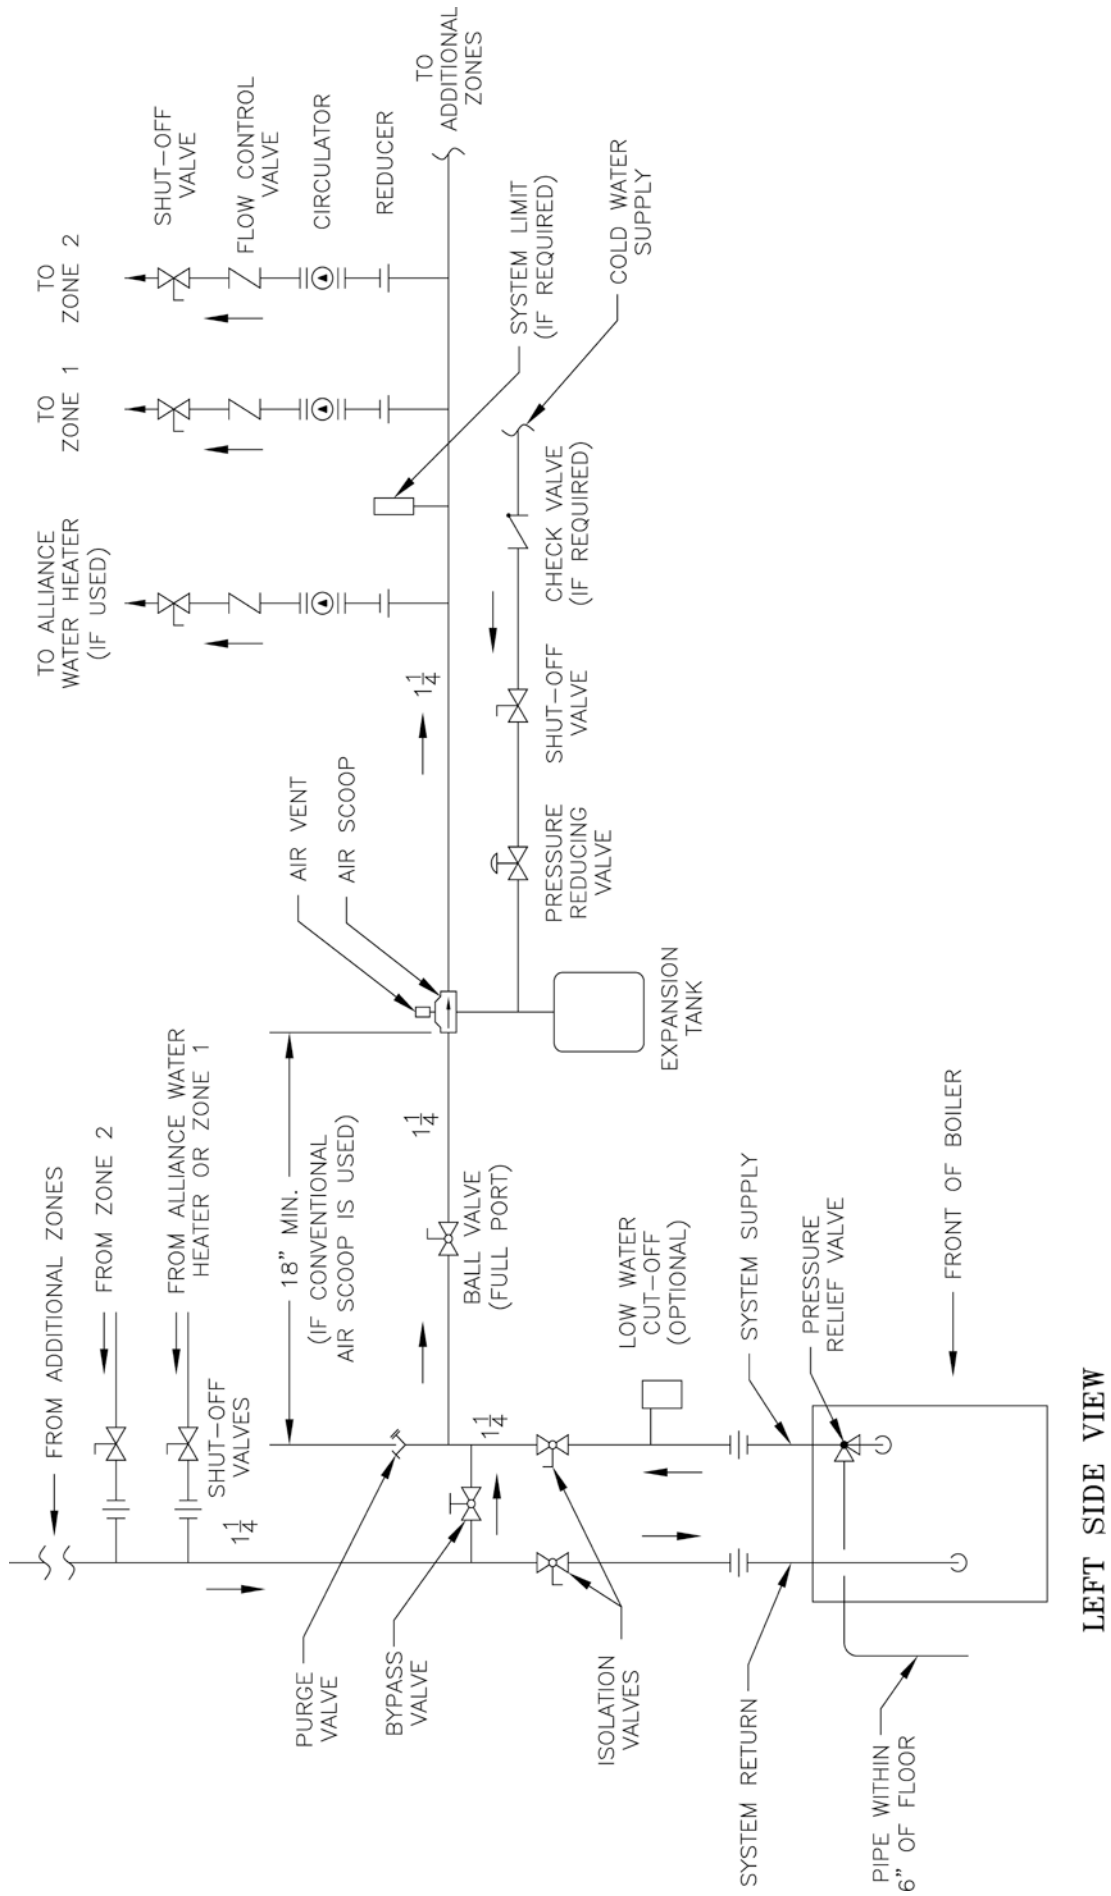

Figure 25: Recommended Water Piping for Circulator Zoned Heating Systems
- C. Connect system supply and return piping to boiler.** See Figures 25 and 26. Maintain minimum ½ inch clearance from hot water piping to combustible materials.
Install pipe tee between circulator and boiler return along with second tee in supply piping as shown in Figure 25 or 26. Bypass should be same size as the supply and return lines with valves located in bypass and supply outlet as illustrated in Figure 25 or 26 in order to regulate water flow to maintain higher boiler water temperatures.